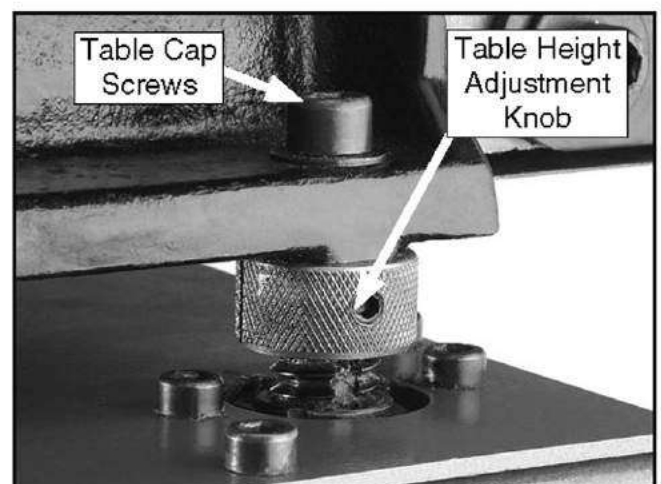

Figure 47. Table height adjustment knob.
7. Loosen table cap screws and adjust height of table by rotating adjustment knob shown in **Figure 47**.